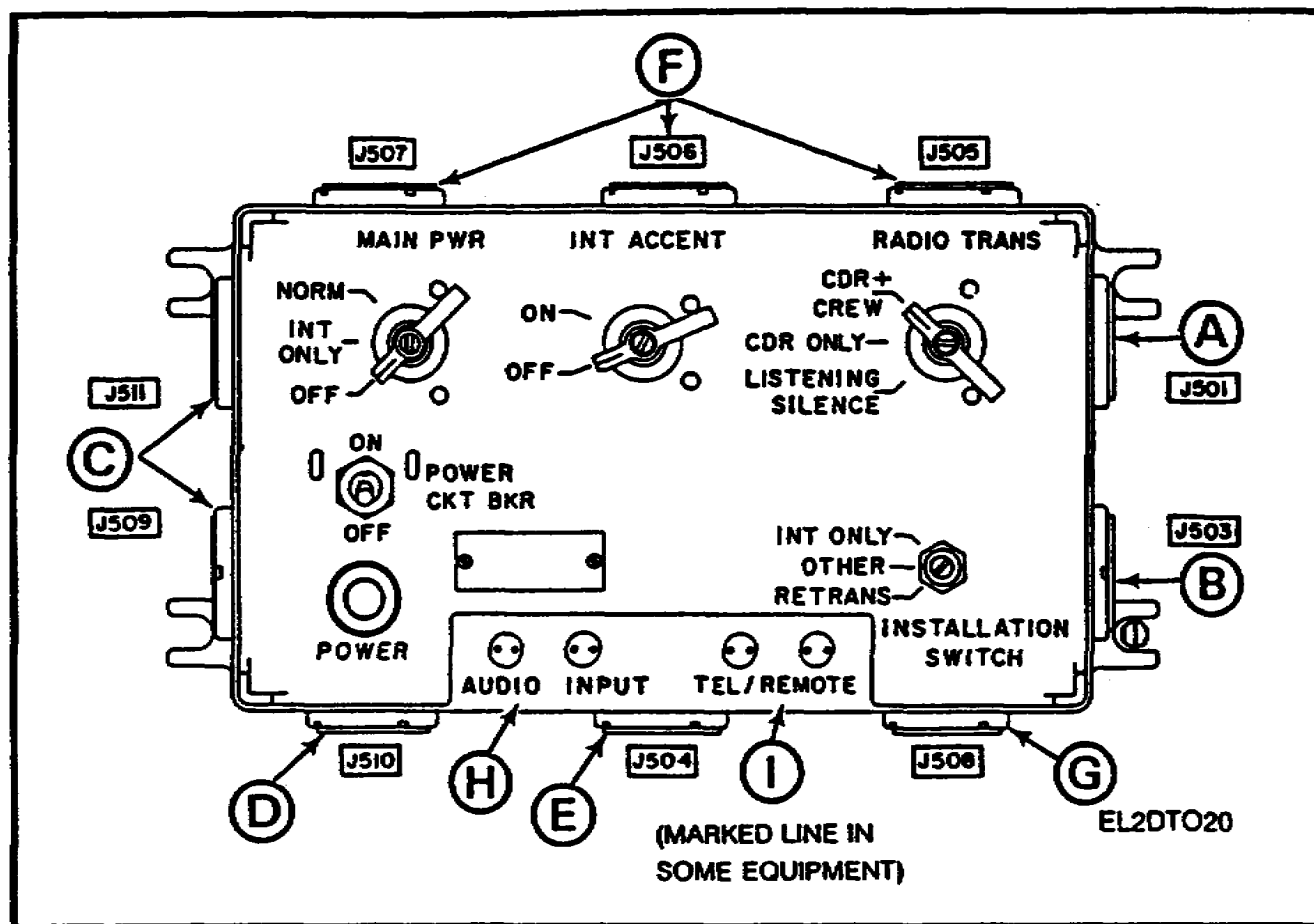

Figure 8. AM-1780 jacks and binding post locations.
1. See Figure 8. First, let's identify the jacks and their use on the AM-1780. Jack J501 (A) provides power and audio and control interface signals from the A-RT (receiver-transmitter) when used with radio. Jack J503 (B) provides audio signals and controls interface signals from the C-RT (receiver-transmitter) when used with radio. Jacks J509 and J511 (C) provide connections